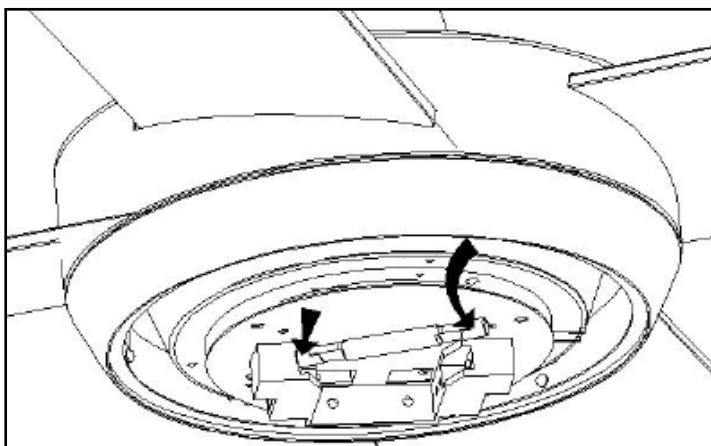

Fig. 11
- Insert the Linear halogen lamp to the socket. Fig 11.